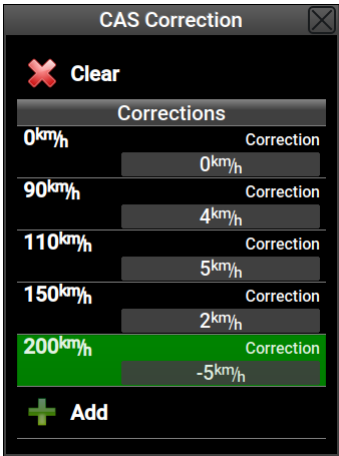

Figure 78: An example of the CAS correction table.
- 2. Enter points as shown in the Figure 78.